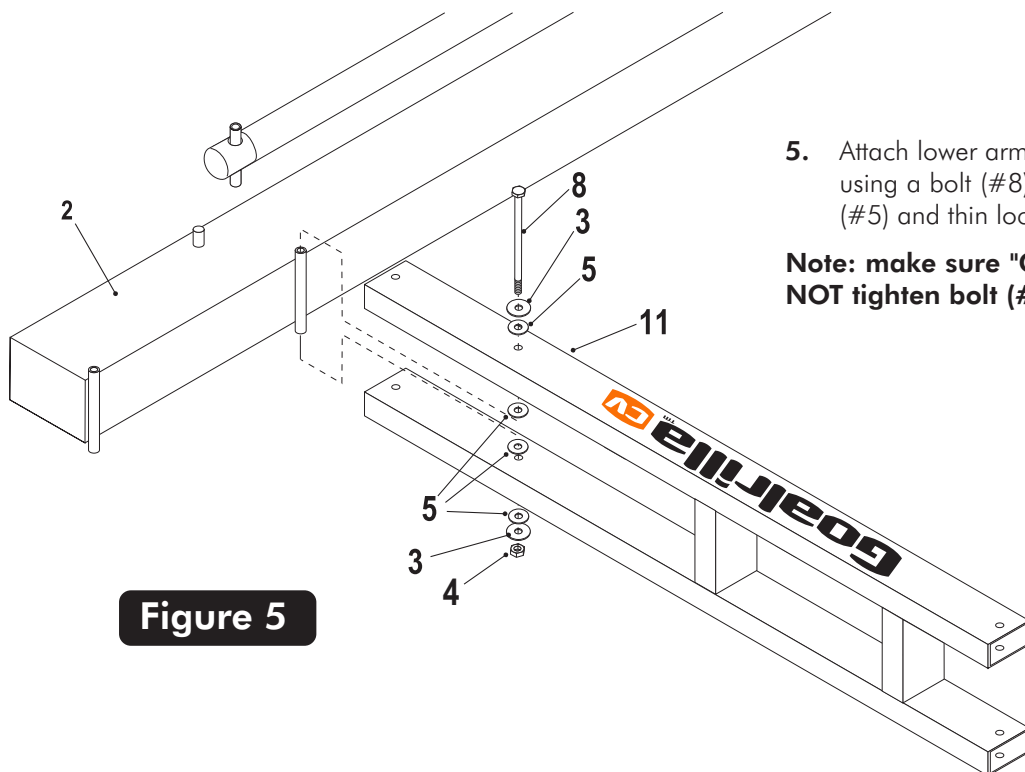

Figure 5
5. Attach lower arm (#11) to Pole (#2), as shown in Figure 5, using a bolt (#8), two flatwashers (#3), four plastic washers (#5) and thin locknut (#4).